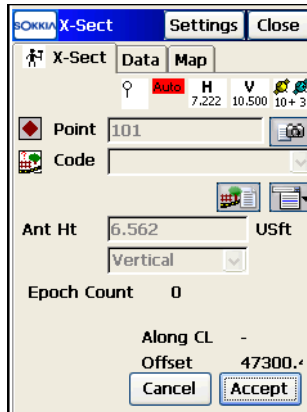

Figure 8-29. Cross-Section Accept
3. On the *X-Sect* screen (Figure 8-29 on page 8-28) perform the usual observation work relative to the cross-section, as described in “Performing a Topo Survey” on page 8-18.